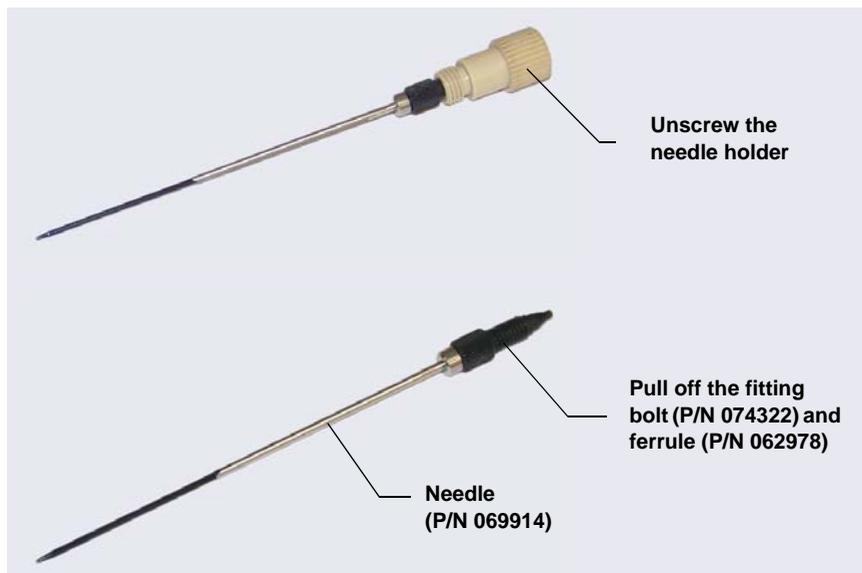

Figure 5-3. Needle Removed from Autosampler
6. Unscrew the needle holder and remove it from the needle (see Figure 5-3). Remove the fitting bolt and ferrule from the needle. Save the fittings to use with the new needle.